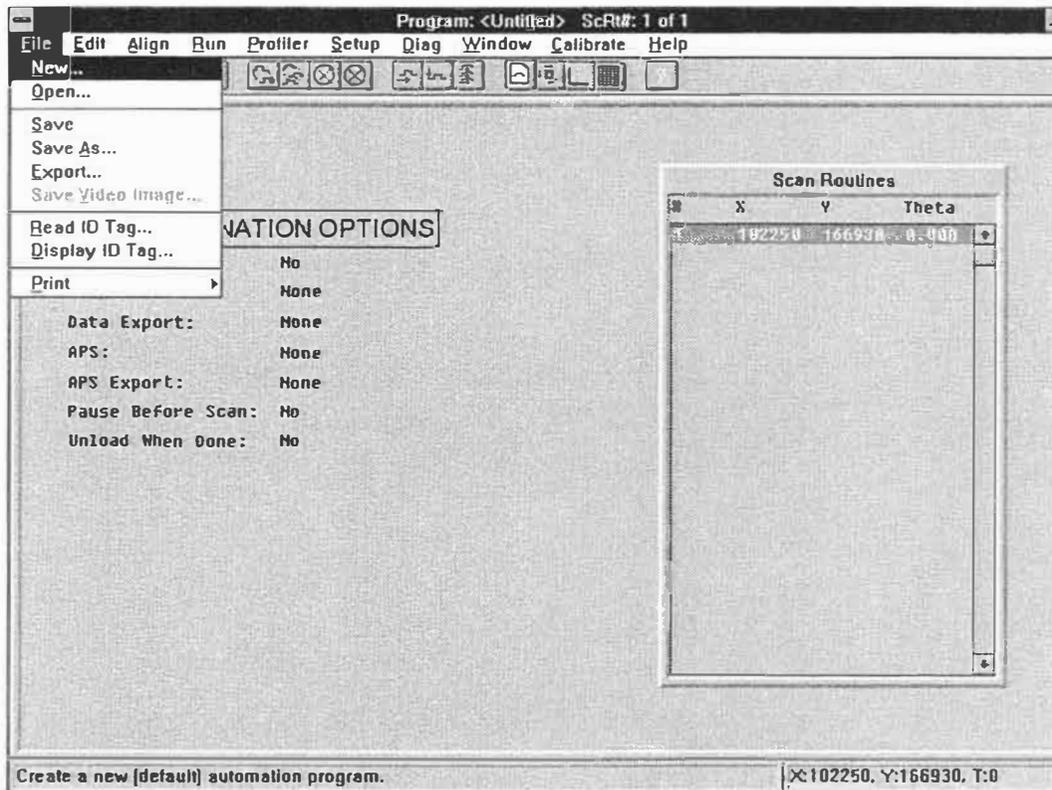

Figure 4-1. Creating A New Automation Program
1. Click-on "Window" from the system menu bar and click-on "Automation Programs" from the Window Menu. The Automation Programs screen will be displayed (see Figure 4-1).